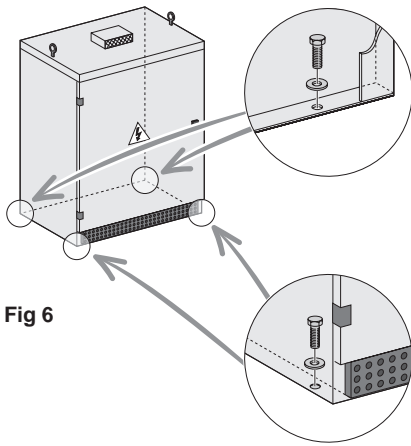

Fig 6
- Attach the enclosures to the ground with or without a base, by using the fastening points provided for this (fig 6).